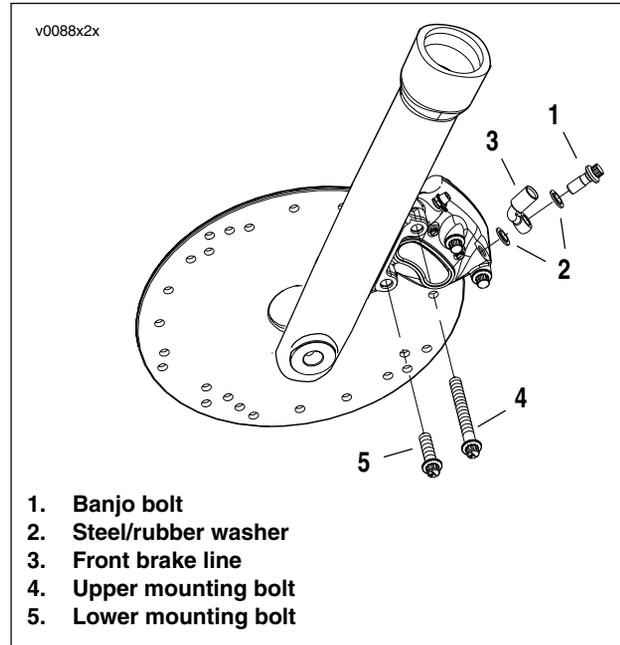

Figure 2-42. Front Brake Caliper Mounting
1. See Figure 2-42. Remove banjo bolt (1) and both steel/rubber washers (2) to detach front brake line (3) from caliper. Discard washers.
2. Remove both upper (4) and lower (5) mounting bolts. Lift caliper upward to remove from brake disc.
1. See Figure 2-42. Attach calipers to fork legs.
- b. Loosely install long upper mounting bolt (4) into top hole on fork leg.
- c. Install short lower mounting bolt (5) into bottom hole on fork leg. Tighten bottom mounting bolt to 38-52 Nm (28-38 ft-lbs).